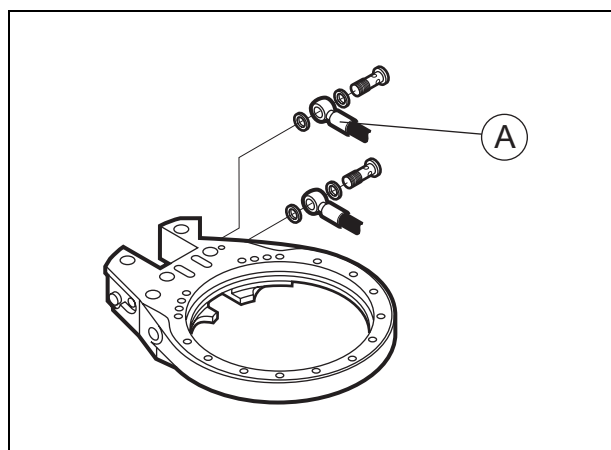

Fig. 48 Hydraulic hose - chain tensioning
1. If necessary, remove the hydraulic hose for the tensioner (A) and plug all connections. See Fig. 48.